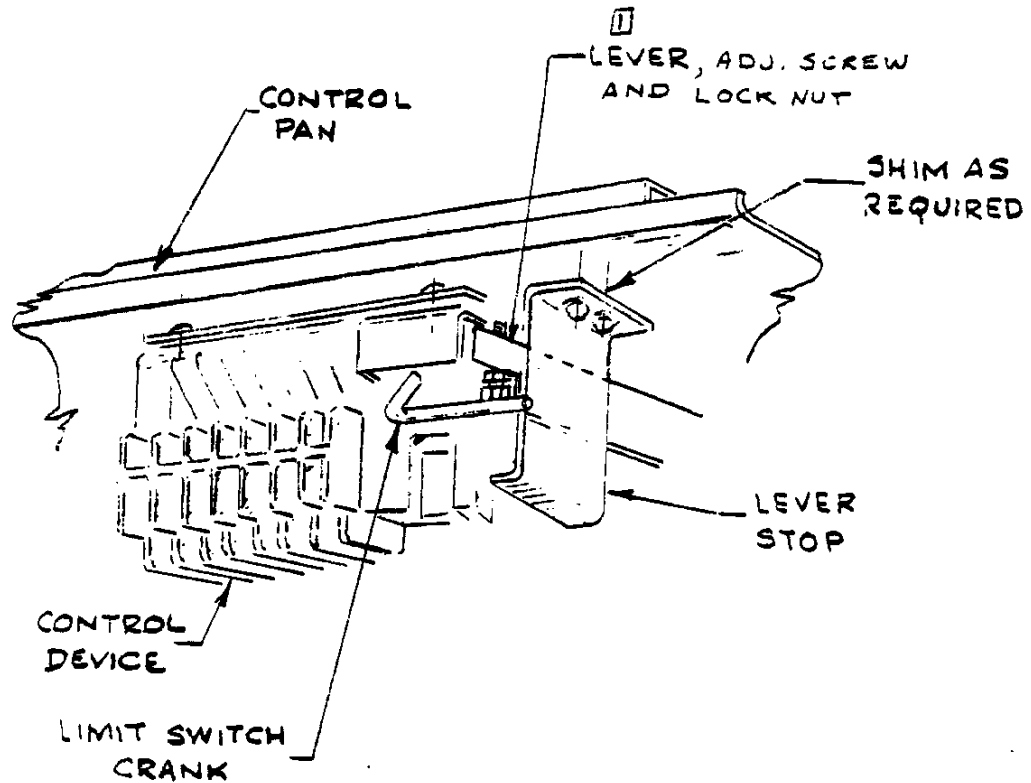

FIGURE I-1
11. The gap between control device lever and control lever stop should be $1/64"$ to $1/16"$ with discharged springs. (Shim lever stop as required.) See Figure I-1.